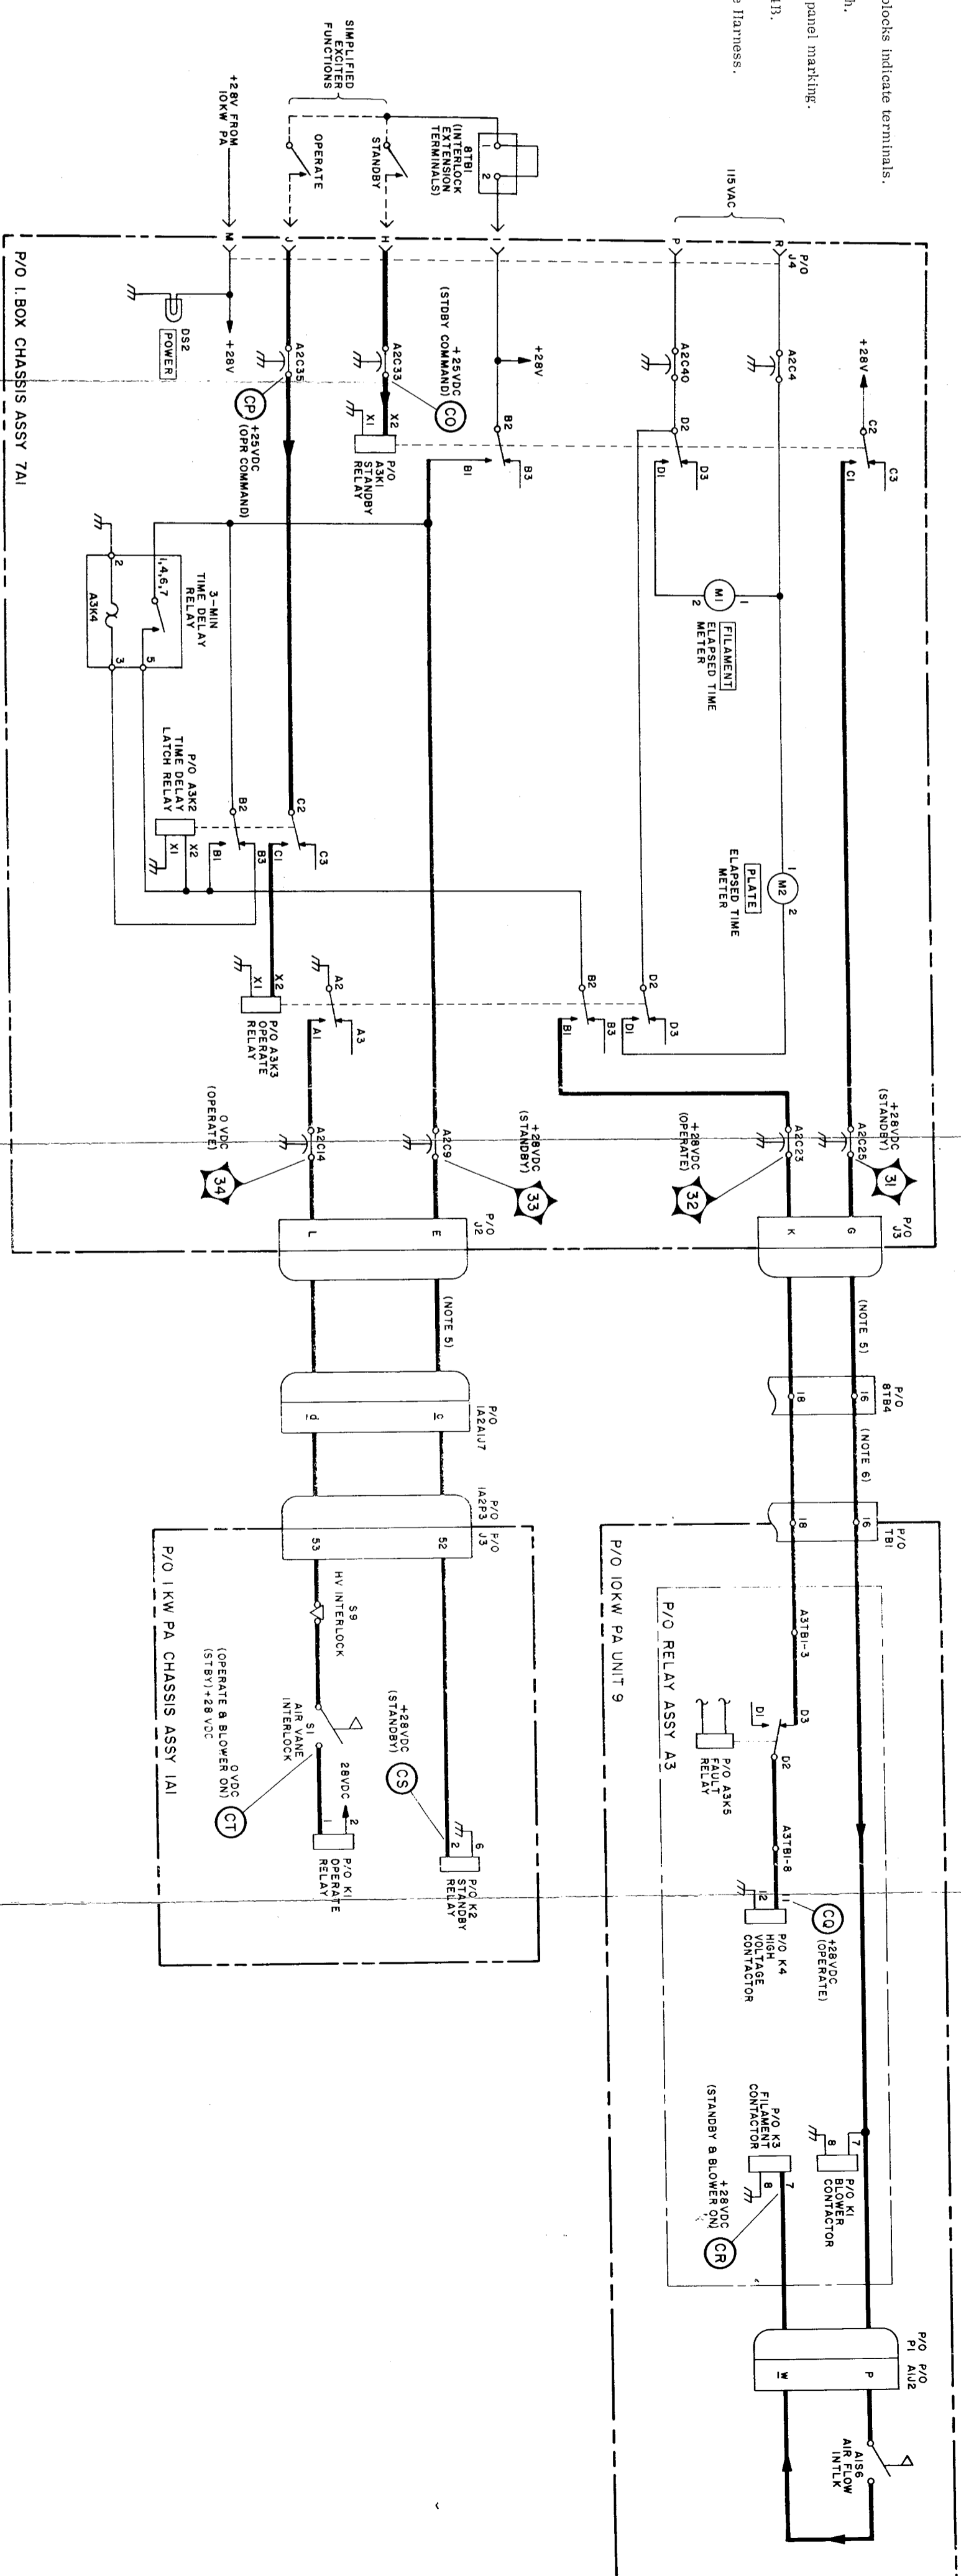

Figure 4-51. Standby and Operate Control Circuit, Servicing Diagram
- Other part of 9A3A2K5 breaks operate command path when faulted. See Figure 4-51, 10 KW PA Power Supply.